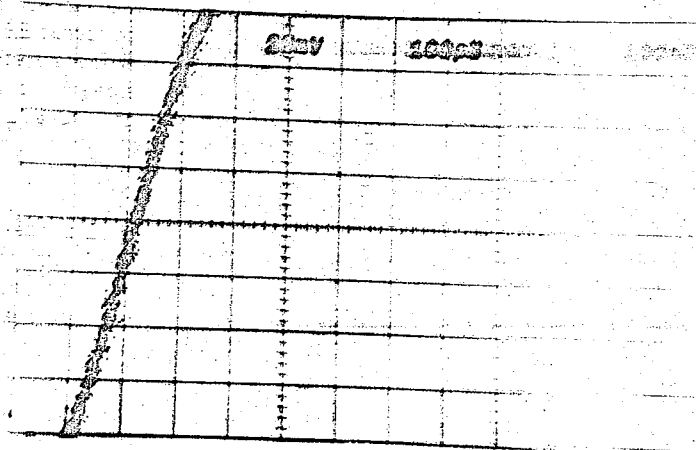

Fig. 7-14. Jitter; 80% of Dots within 0.3 of One Major Division.
i. Change the VOLTS/DIV to 20 mV and check that 80% of the dots are within .3 division (30 ps) horizontally (see Fig. 7-14).